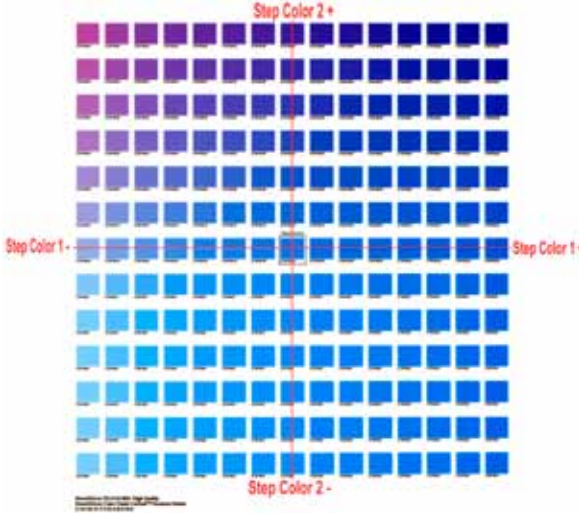

Figure 3
- Click on **Color Chooser** and select your desired starting color from the matrix. If you do not wish to use **Color Chooser**, you have the option to manually enter the **Start Color** values in the **CMYK** boxes. (**Figure 3, page 51.**)
- To use **Color Chooser**, simply click on the **‘Start Color Chooser’** button in the **“Color Finder” Section**, at the top right of the **“ChromaBlast Custom Palette Utility” Window**. You can then choose a color from the basic color selection, or you can click on the **Color** button at the right of the window. This will display a color matrix. To define a custom color, click anywhere in the matrix. Use the slider at the right of the matrix to adjust luminosity. Clicking **‘OK’** will automatically fill the **RGB** boxes with the corresponding values. (**Fig. 3**)